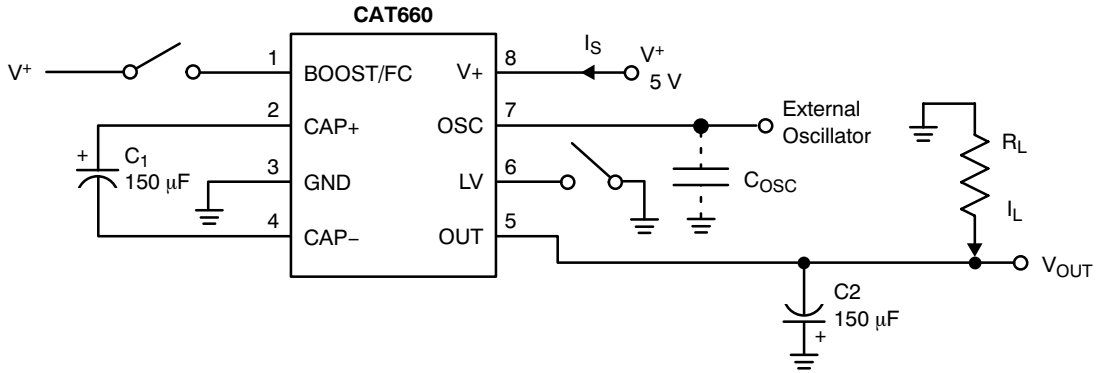

Figure 3. Test Circuit
Table 3. ELECTRICAL CHARACTERISTICS (V+ = 5 V, C1 = C2 = 150 μF, Boost/FC = Open, C_{OSC} = 0 pF, inverter mode with test circuit as shown in Figure 3 unless otherwise noted. Temperature is over operating ambient temperature range unless otherwise noted.)
- In Figure 3, test circuit capacitors C1 and C2 are 150 μF and have 0.2 Ω maximum ESR. Higher ESR levels may reduce efficiency and output voltage.
(Typical characteristic curves are generated using the test circuit in Figure 3. Inverter test conditions are: $V_+ = 5\text{ V}$, $LV = \text{GND}$, $\text{BOOST/FC} = \text{Open}$ and $T_A = 25^\circ\text{C}$ unless otherwise indicated. Note that the charge-pump frequency is one-half the oscillator frequency.)